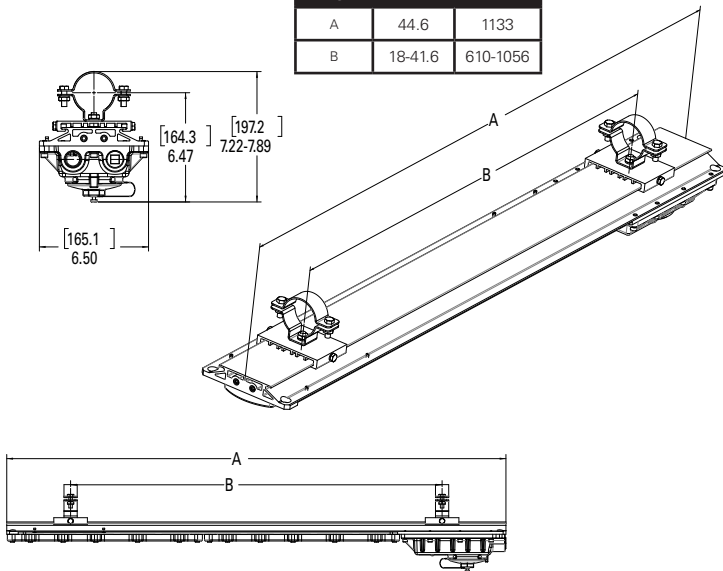
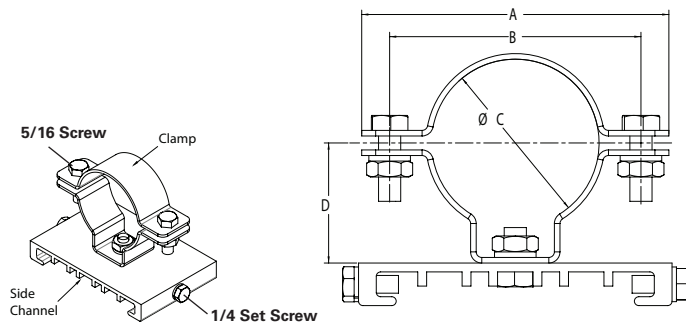

Figure 5. PM KIT - Pole Mount Installation
Figure 6. PM KIT - Pole Mount Details
2. Verify that the clamp (see Figure 6) internal diameter is consistent with the diameter of the pole prior to installation. Clamps are available in 1.65" (42mm), 2.00" (51mm) and 2.36" (60mm) sizes.
3. Pole mount brackets may be spaced as required; it is required to keep them at least 18" (457mm) apart (see Figure 5) (see table for full mounting range).
4. Slide the two (2) pole mount brackets onto the luminaire, engaging the flange on the top of the luminaire.
5. Tighten the two (2) 1/4" set screws on each slide bracket until they bottom (see Figure 6). Torque to 78 in.-lbs. (8.8 N-m).
6. Remove the two (2) 5/16" screws, lock washers and nuts on each clamp and remove the upper clamp halves.
7. Luminaire is now ready for mounting. It is strongly suggested to use two (2) qualified tradespeople to proceed with the final mounting of the luminaire. This is recommended to avoid any personal injury or damage to the luminaire.
9. Install the two (2) upper clamp halves and the 5/16" screws, lock washers and nuts on each clamp.